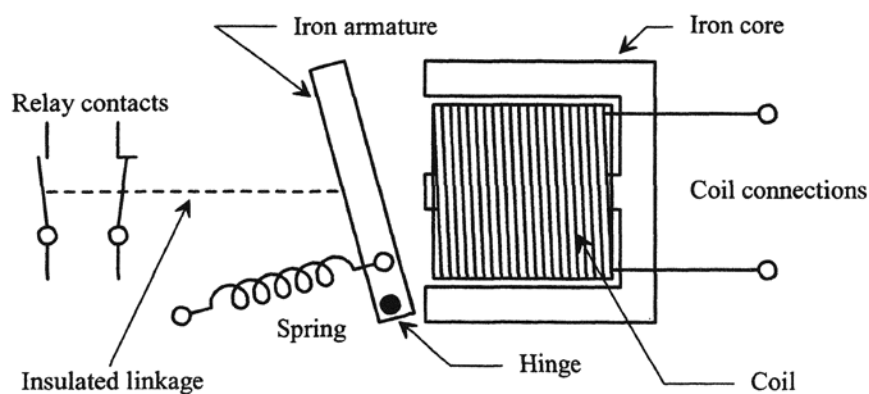

Figure 2
8. Using a red pen, neatly draw a dotted line onto the diagram of Figure 2 to indicate the path of the magnetic flux when the coil is energised.